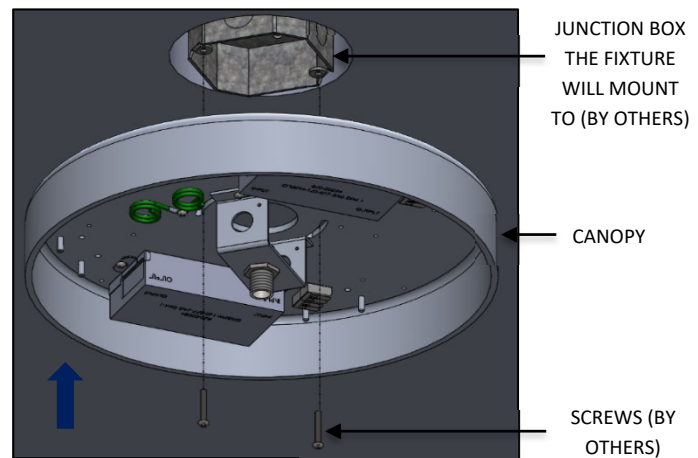

FIG. 12 – CANOPY ASSEMBLY
10. Assemble the CANOPY ASSEMBLY to the JUNCTION BOX (by others) with screws (by others) at the center of the non-powered mounting points as shown in FIG. 12 below.